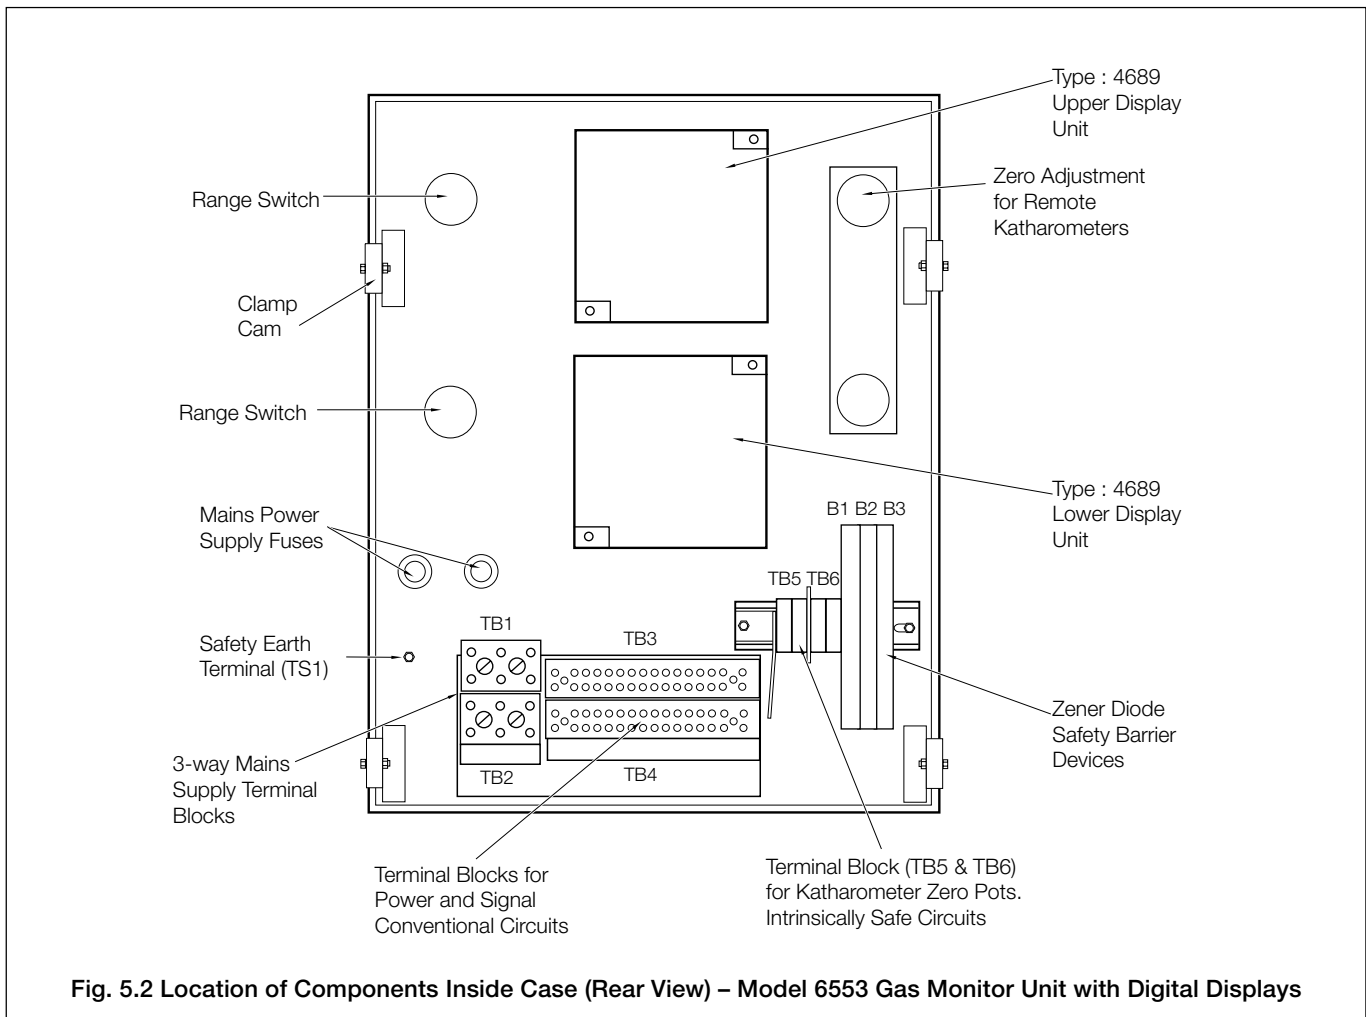

Fig. 5.2 Location of Components Inside Case (Rear View) – Model 6553 Gas Monitor Unit with Digital Displays
5.1.1 Model 6553 Gas Monitor – Fig. 5.2
The electrical connections are made through the bottom of the unit into the terminal blocks immediately above them. See Fig. 5.2.
Make the Earth (Ground) and **Safety Earth** connection at the stud (TS1) – see Fig. 5.2.